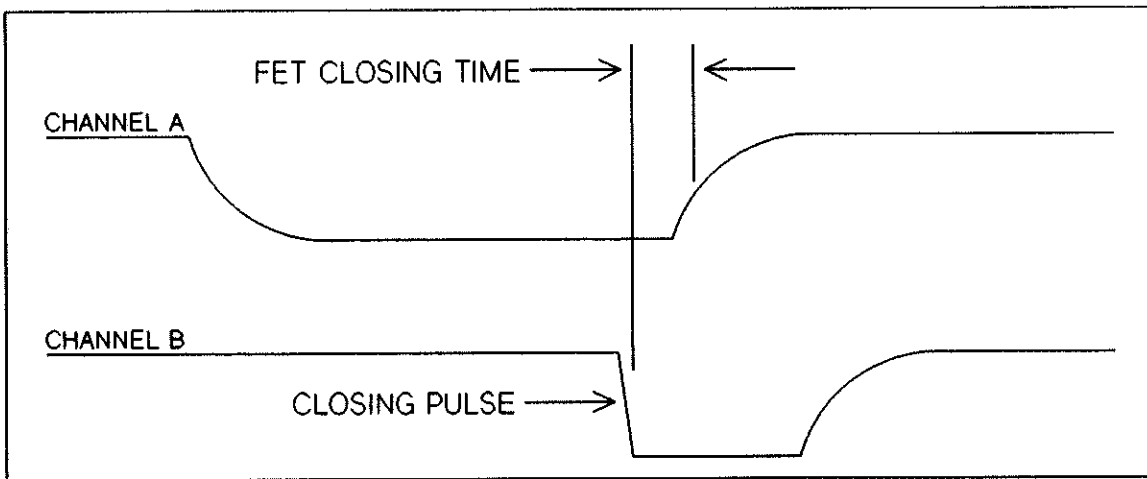

Figure 10-16 HP 44711A Closing Time
3. Rotate the DELAY SWEEP dial on the oscilloscope to the minimum position. Slowly rotate the dial clockwise until the first closing is displayed. The Channel B trace is the closing pulse output from the multiplexer. The Channel A waveform is the +5V supply, as switched by the FET channel switches. As the DELAY SWEEP dial is rotated, each channel switch and the associated CLOSING pulse will come into view. The FET closing time is the time from the falling edge of the CLOSING pulse to the rising edge of the Channel A waveform. This time must be less than 2.25  $\mu$ seconds. The closing time is illustrated in Figure 10-16.